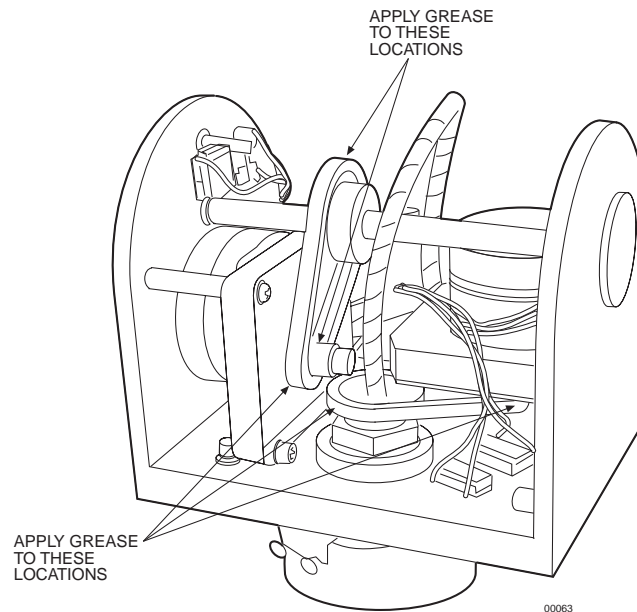

Figure 5. Servicing the Pan and Tilt
1. Liberally apply grease to the pan and tilt drive chains and sprockets (refer to Figure 5).